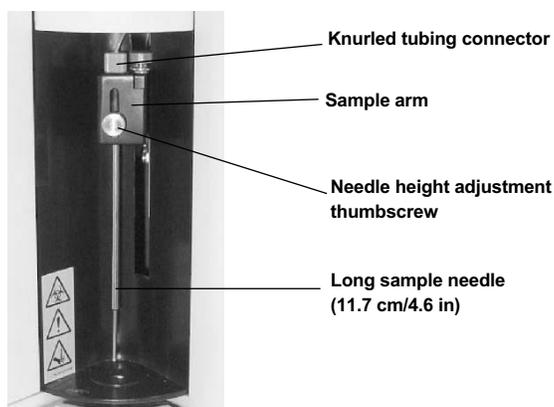

Fig. 14. Sample needle assembly.
3. Remove the knurled tubing connector (Cheminert fitting) atop the sample arm by grasping the sample arm and turning the connector counterclockwise (Figure 14). If the connector is difficult to remove, push up gently on the sampling needle.